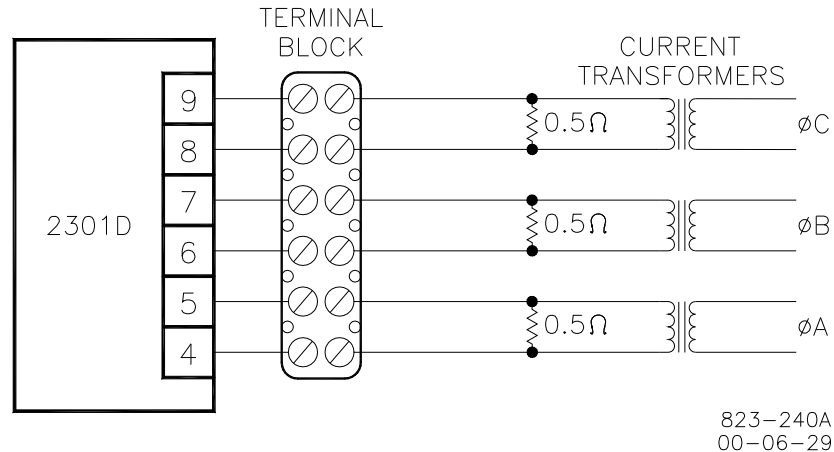

Figure 5-1. Temporary Wiring for Transformer Phase Correction
HIGH VOLTAGE—Never disconnect any wire attached to load sensor terminals 4 through 9 when the prime mover is running unless temporary 0.5 A, 20 W resistors are installed as shown in Figure 5-1, and all load is removed. The current transformers can develop dangerously high voltages when open circuited while the prime mover is running.
The Phase Correction Procedure requires that the prime mover be shut down many times to disconnect the current transformers. For convenience, a temporary method of connecting the current transformers shown in Figure 5-1 is recommended. Connecting a 0.5 A, 20 W burden resistor across each current transformer allows the current transformers to be disconnected from the terminal strip with the prime mover running, after removing all load.
WARNING HIGH VOLTAGE—The current transformers can develop dangerously high voltages. Do not disconnect a current transformer while the prime mover is running unless temporary 0.5 A, 20 W resistors are installed as shown in Figure 5-1, and all load is removed.
If the temporary burden resistors described above and shown in Figure 5-1 are not used, the prime mover **MUST** be shut down in addition to removing the load in the following procedure.
10. With the engine running at no load, idle speed; increase the gain one click at a time until a sustained speed oscillation is only just obtained. In between clicks, use the actuator bump feature to introduce a very small bump to the system (1% fuel demand, 0.020 seconds works well). The system oscillations will either die out in a short amount of time (stable), stay at the same amplitude for a long time (marginally stable), or keep increasing in amplitude (unstable). To start with, you will most likely be in the stable range, where the oscillations die out with time. As you increase the gain, you will eventually go into the unstable region, where you might need to switch back to 2nd dynamics to get the engine under control. Reduce the gain and switch back to 1st dynamics. Keep slightly adjusting the gain up or down until you find the setting that gives you the point of marginal stability. When you are there, the oscillations will neither decrease nor increase in amplitude. If you can maintain a constant amplitude for 30 seconds to a minute, you have found the point. If the oscillations die out, your gain is too low. If they keep getting bigger, your gain is too high. Adjust if required. The following trace (Figure 5-1) is an example. Write down the Gain setting (5.92 in this example) and call it K_u . This is needed to calculate final settings.